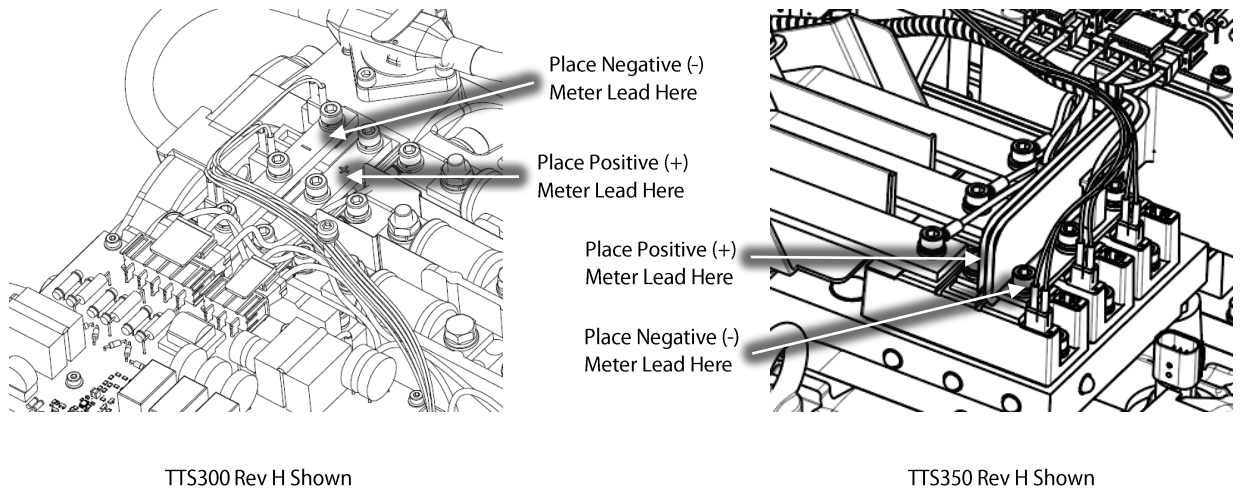

Figure 4 – DC Bus Voltage Test Points
3. Remove the Mains Input Cover by removing the four (4) fasteners that secure the cover.
7. Using an appropriately-rated volt meter, check the DC Bus Bars for voltage level. If the voltage is above 5VDC, wait five (5) minutes and recheck until voltage is below 5 VDC. Refer to Figure 4 – DC Bus Voltage Test Points.